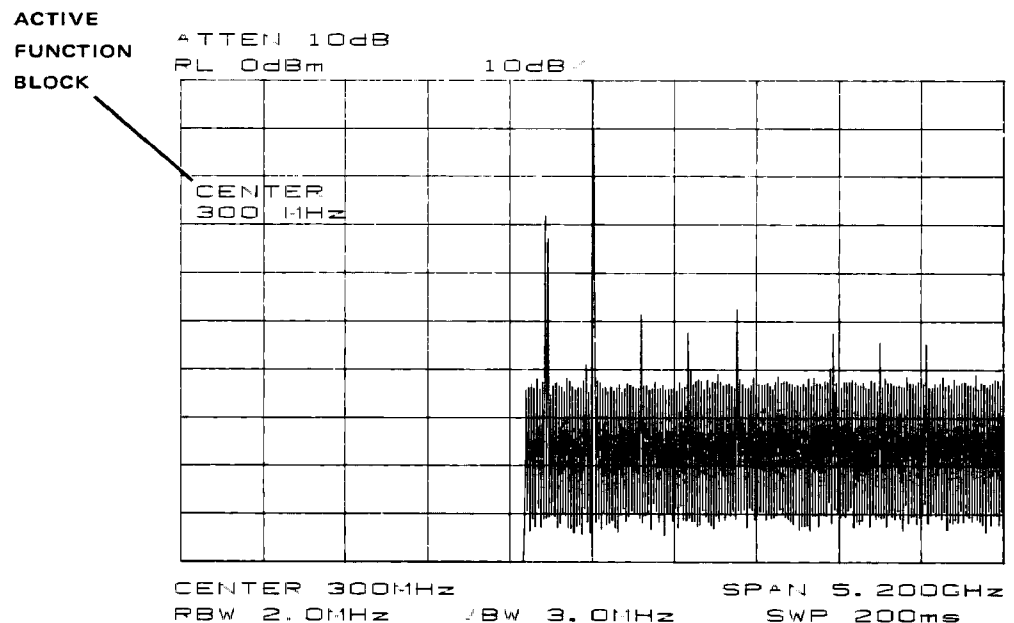

Figure 1-5. Center Frequency Set to 300 MHz
1. Set the center frequency. Press **FREQUENCY**. This activates the center frequency function, indicated by CENTER appearing in the active function block on the left side of the display (see Figure 1-5). To set the center frequency to 300 MHz, use the keys in the data section of the front panel and press 300 **MHz**. These data keys allow you to select the exact numeric value of the active function, which in this case is the center frequency. The step keys and knob also allow you to select function values.